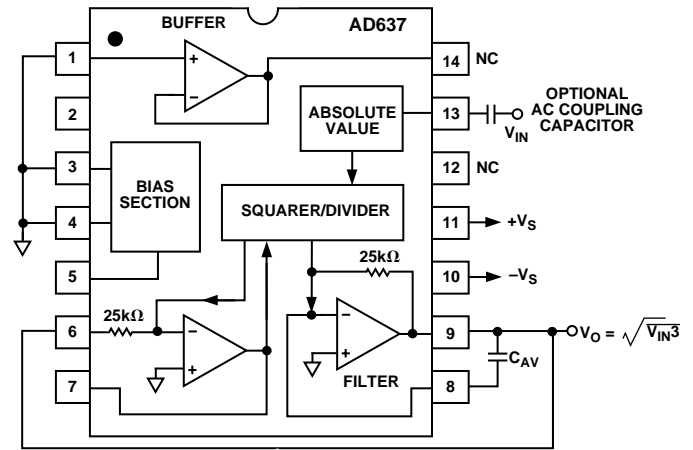

Figure 2. Standard RMS Connection
- ¹Accuracy specified 0-7 V rms dc with AD637 connected as shown in Figure 2.
The AD637 is simple to connect for a majority of rms measurements. In the standard rms connection shown in Figure 2, only a single external capacitor is required to set the averaging time constant. In this configuration, the AD637 will compute the true rms of any input signal. An averaging error, the magnitude of which will be dependent on the value of the averaging capacitor, will be present at low frequencies. For example, if the filter capacitor C_{AV} , is 4 μF this error will be 0.1% at 10 Hz and increases to 1% at 3 Hz. If it is desired to measure only ac signals,
the AD637 can be ac coupled through the addition of a non-polar capacitor in series with the input as shown in Figure 2.